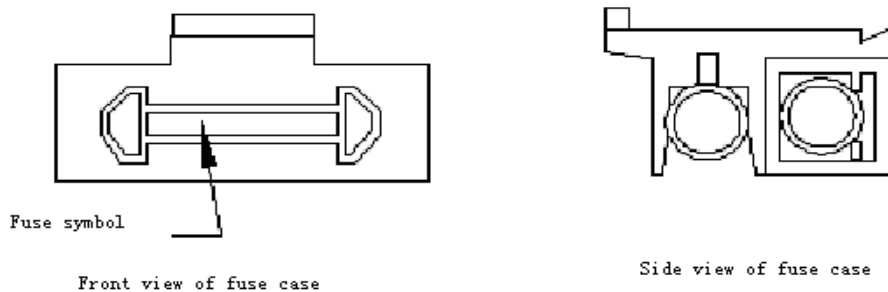
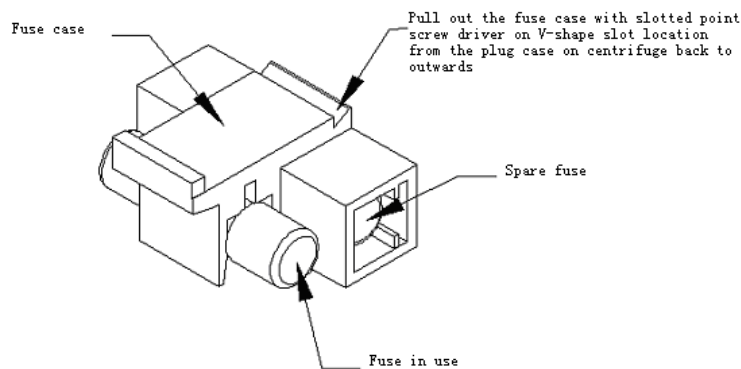

Figure 3
Figure 4
(2) There is a fuse case equipped on the under part of electric outlet on instrument back. (See figure 3) There is a marking for fuse symbol, and find the V-shape slot on fuse case. (See figure 4) Pull out the fuse case with slotted point screw driver into the V-shape slot.
(3) Take out the damaged fuse and replace it. The model of fuse of the centrifuge is BGXP 5×20 、 250V 10A.
(4) Put the fuse case into electric outlet.